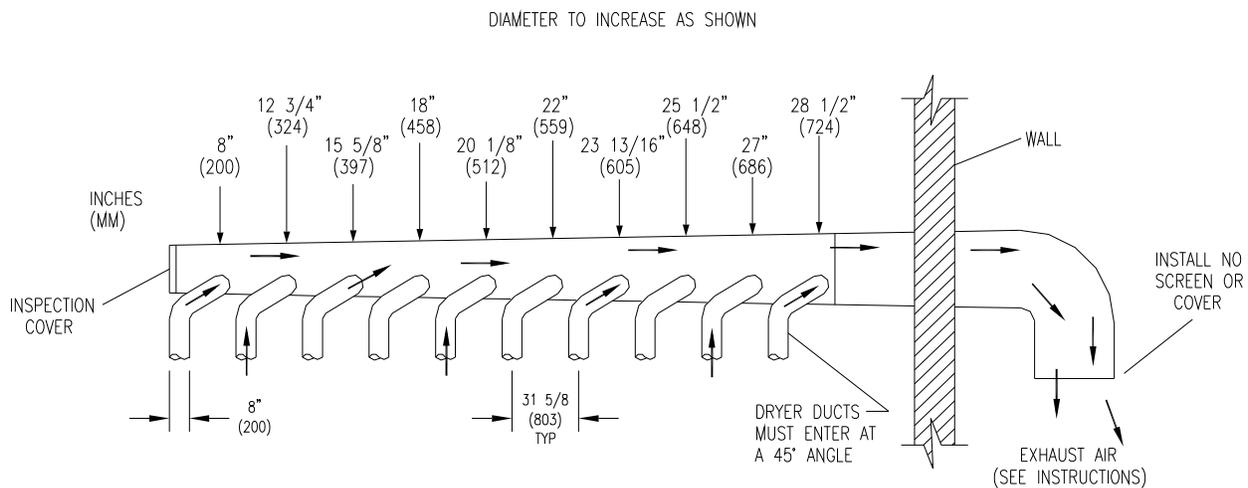

FIGURE 3- Dryer Exhausting Using A Main Discharge Duct.
| DRYER EXHAUST SYSTEM (Figure 3) | 9 |
7. **EXHAUST INSTALLATION.** (Refer to Figure 3 at the end of section 7.) Exhausting of the dryer(s) should be planned and constructed so that no air restrictions occur. Any restriction due to pipe size or type of installation can cause slow drying time, excessive heat, and lint in the room.
Installation of several dryers, where a main discharge duct is necessary, will need the following considerations for installation (see Figure 3). Individual 8" ducts from the dryers into the main discharge duct should be at a 45-degree angle in the direction of discharge airflow.
NOTE: Never install the individual 8" ducts at a right angle into the main discharge duct. The individual ducts from the dryers can enter at the sides or bottom of the main discharge duct. Figure 3 indicates the various round main duct diameters to use with the individual dryer ducts. The main duct can be rectangular or round, provided adequate airflow is maintained. For each individual dryer, the total exhausting (main discharge duct plus duct outlet from the dryer) should not exceed the equivalent of 14 ft (4.27m) and two elbows. The diameter of the main discharge duct at the last dryer must be maintained to exhaust end.